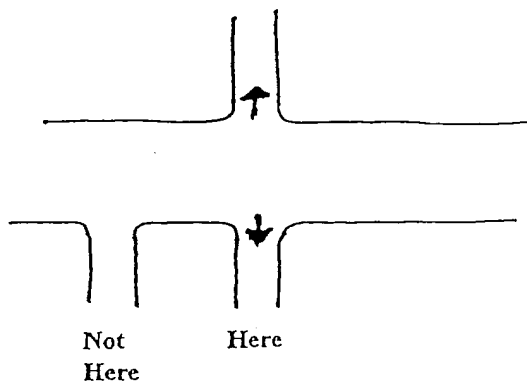

Figure 20
- ☐ Align parking and service entries across from each other along public streets whenever possible (Figure 20).